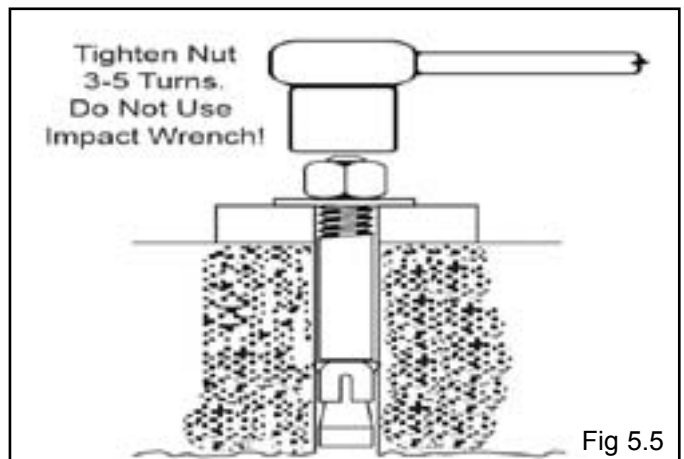

Fig 5.5
7. With the Foot Guards, shims and anchor bolts in place, tighten by securing the nut to the base then turning 3-5 full turns clockwise. **DO NOT** use an impact wrench for this procedure. (See Fig. 5.5)